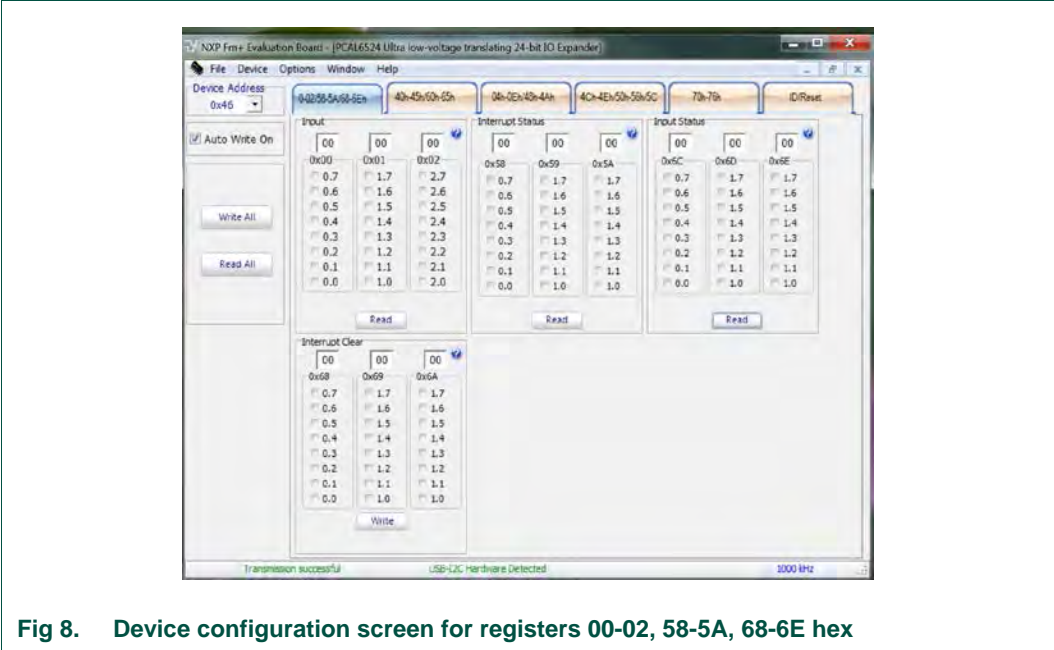

Fig 8. Device configuration screen for registers 00-02, 58-5A, 68-6E hex
2. First group registers read or write are shown in Fig 8.
| Fig 8. | Device configuration screen for registers 00-02, 58-5A, 68-6E hex | 12 |